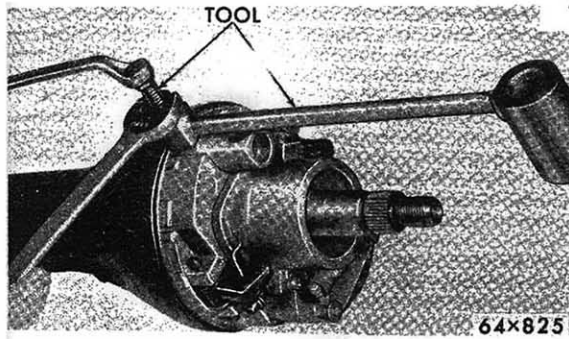

Fig. 25 - Removing the Pivot Pins
- (11) Position Tool C-3957 over one of the tilt actuator pivot pins then enter the tool screw into the tapped hole in the pivot pin (Fig. 25).